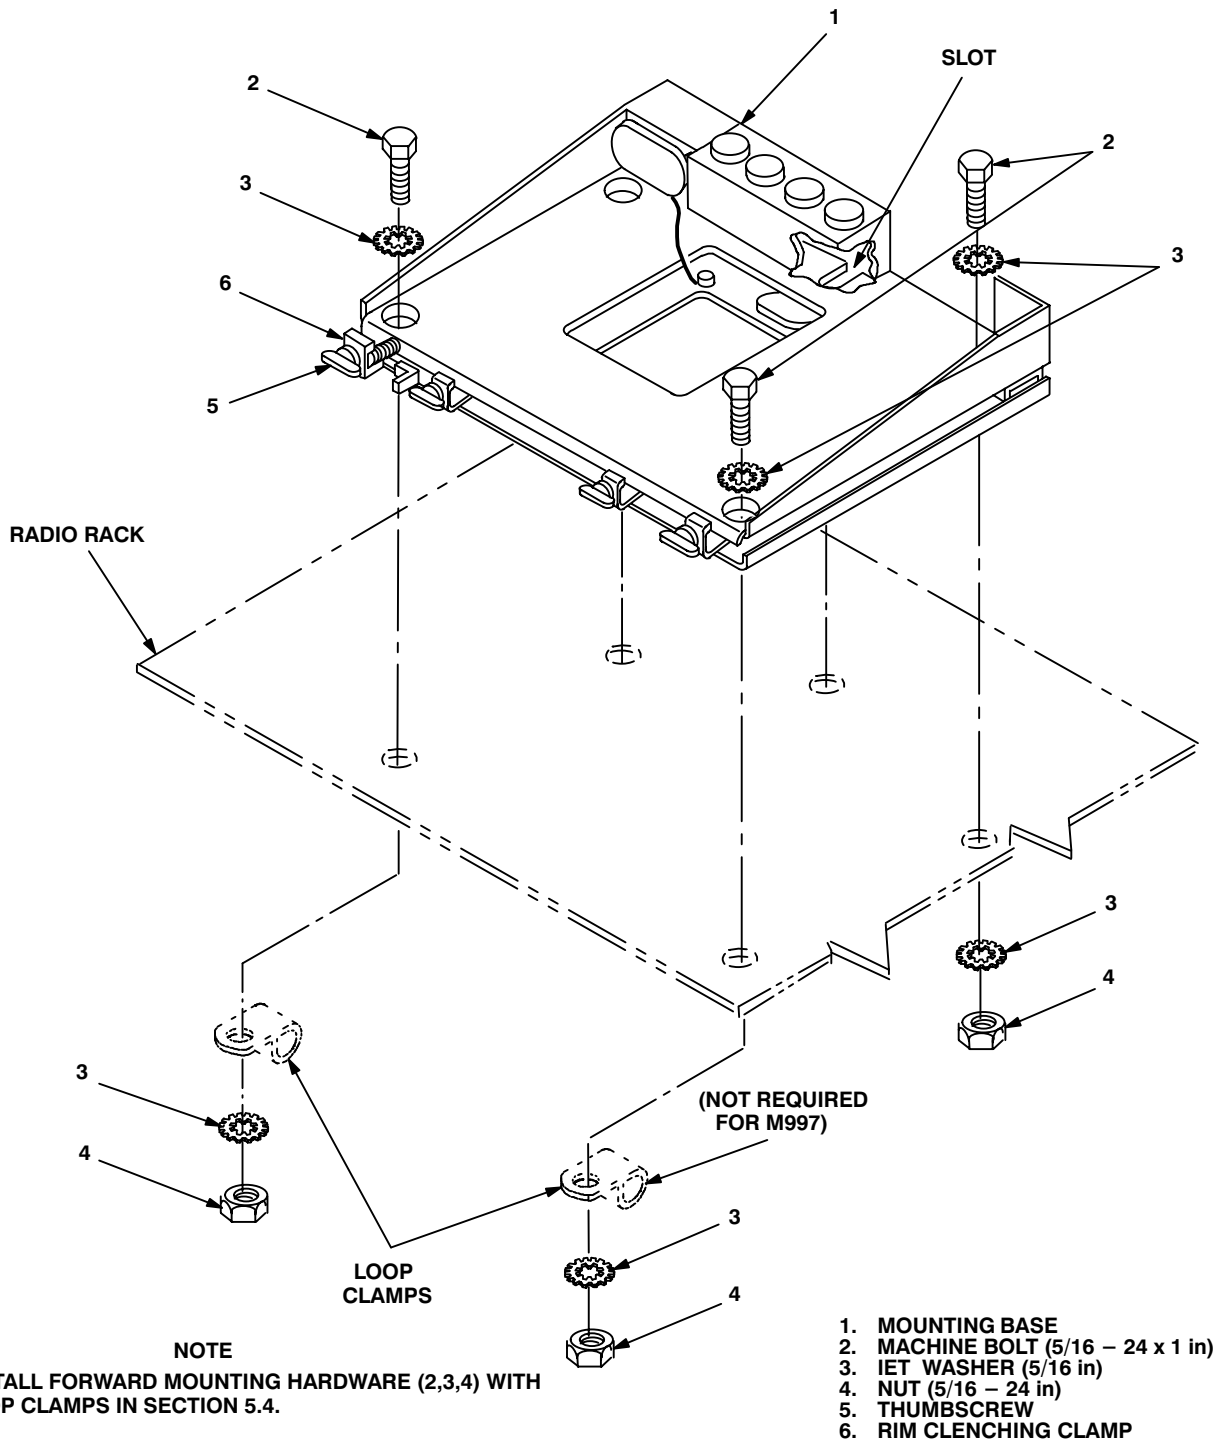

Figure 5-5. Mounting Base Installation
5.3 Installation of Mounting Base, Electrical Equipment MT-6352/VRC (mounting base). Remove and retain attaching bag of 5/16 in mounting hardware for installation. To insure good electrical grounding, any rust, corrosion or paint around mounting holes in radio shelf should be removed before installing the mounting base. See figure 5-5 and perform the following steps.